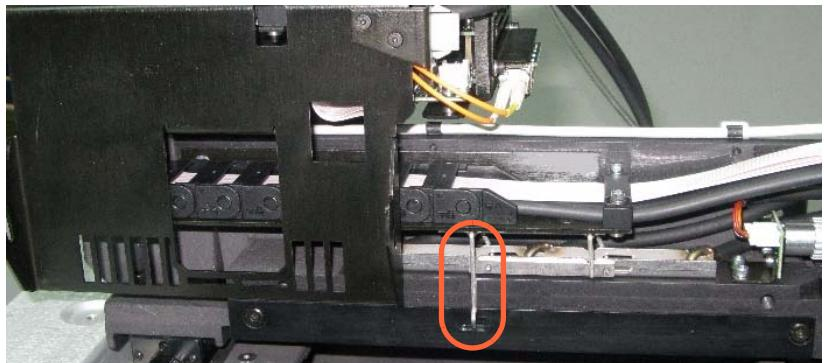

Figure 7-41: Roller-waste-collector locking pin
3. Turn the locking pin clockwise, to lower the drain-tube bracket onto the roller waste collector, and secure the pin in its socket (see figure 7-41 on page 7-28).